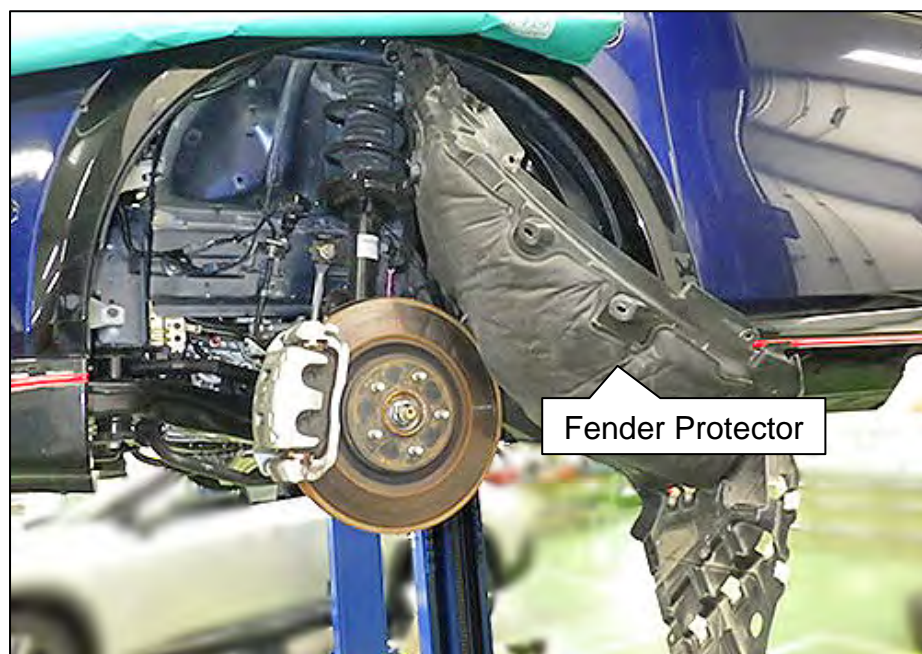
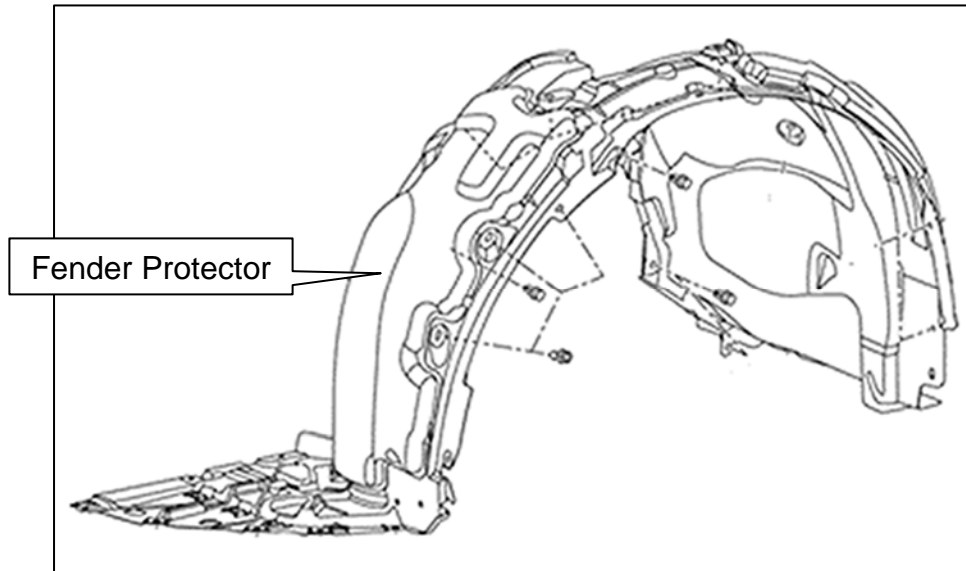

Figure 176
Figure 177
- Eight (8) clips.
- Figure 176 below, and Figure 177 on page 89.